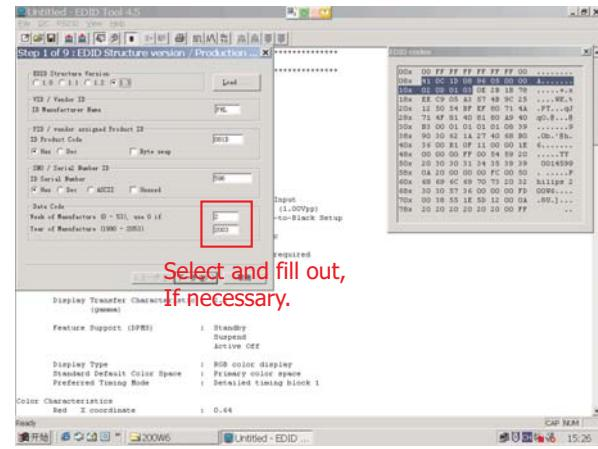

Fig. 15
1. Click (new function) icon from the tool bar, bring up Step 1 of 9 as shown in Fig. 15 .